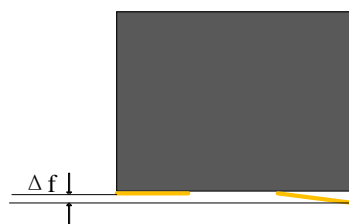

**Fig.3-1**
Dimensions and recommended PCB pattern for reflow soldering, refer to Fig.3-1 and Table 3-1.
- ※ Nominal DCR is measured from point a' to point b'. (refer to Fig. 3-1)